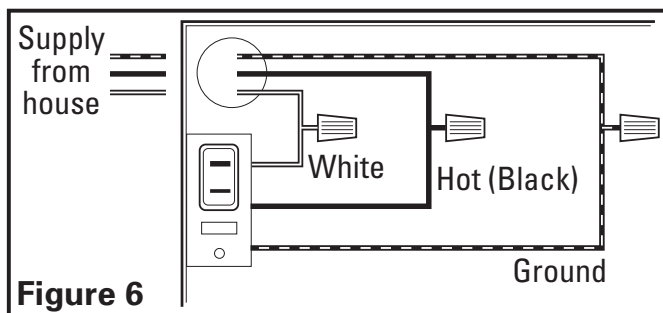

Figure 6
2. From where you have access to inside the fan's junction box, connect the white wire from the house to the white wire from the fan's receptacle. Connect the black wire from the wall switch to the black wire from the fan's receptacle. Connect the ground wire from the house to the green wire from the fan's receptacle (**Figure 6**). Use approved methods for all connections.